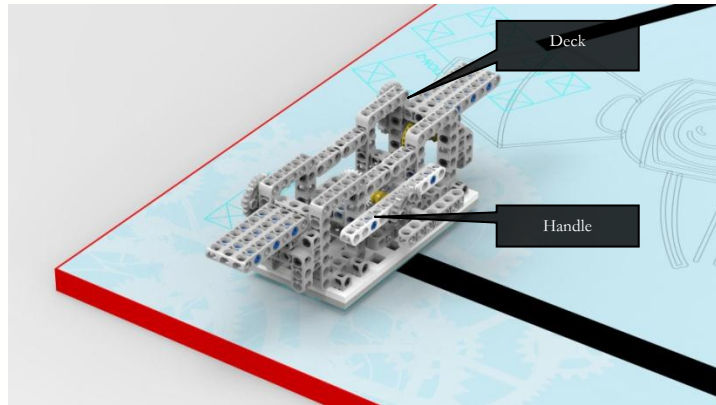

Figure 3 Initial State of the Bridge
3.2.1 There is a model of a bridge to be constructed on the site, as shown in Figure 3.